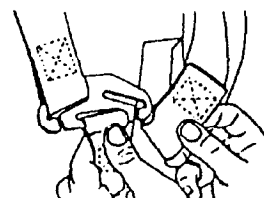

Figure 7
3. Put SPELCAST forward-facing in vehicle and position vehicle seat belts as shown in Figures 8 and 9. Buckle seat belt after firmly compressing SPELCAST into vehicle seat. Use your knee to do this as shown in Figure 7.